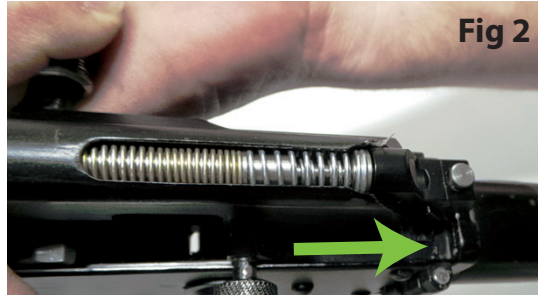

Fig 2
2. Add now the DPM Recoil System with the Longer Spacer and pull again to confirm that the bolt carrier momentary touches the stopping surface **Fig 2**. Attention, you have to use a lot of force because the system has the heavier buffer combination.